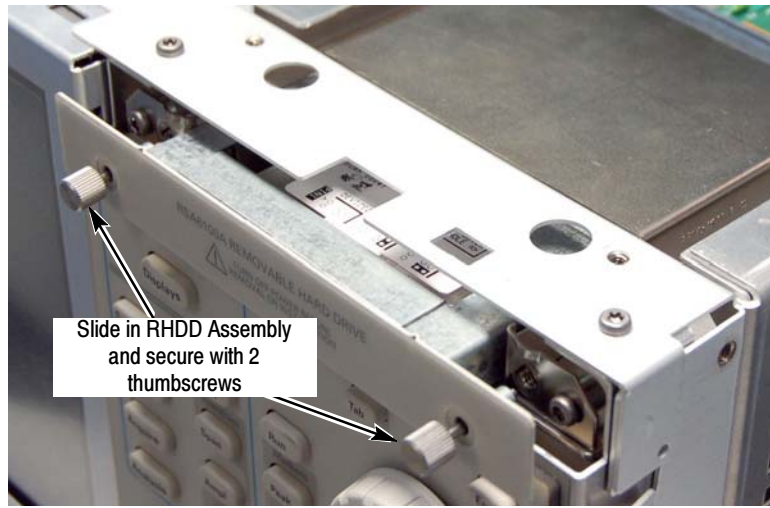

Figure 8: Installing the removable hard disk drive
4. Slide the Removable Hard Drive assembly into the front-panel opening until the connector fully engages, then secure with the two thumbscrews. See Figure 8.